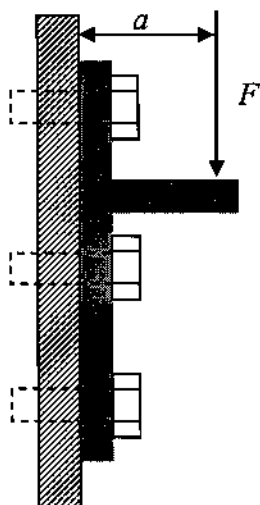

Figure 5a
- 5 (a) Consider the rigid bracket attached to a wall by three rows of identical bolts, as shown in Figure 5a. There are N_i bolts in each row ($i = 1, 2, 3$). The bracket supports a force F at a distance a from the wall. Derive expressions for the axial force in each bolt. (10)